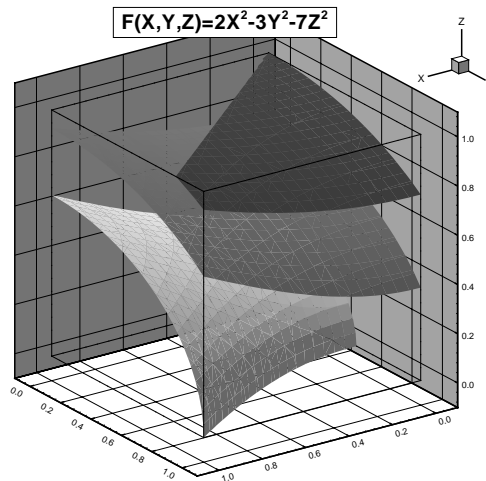

Figure 21-15. Iso-surface plot of an analytic function.
Using Tecplot's data manipulation tools, you can create iso-surface plots of 3-D volume analytic functions such as $F(x,y,z)=2x^2-3y^2-7z^2$. An iso-surface plot of this function in the range $x=0$ to $x=1$, $y=0$ to $y=1$, and $z=0$ to $z=1$ is shown in Figure 21-15.
3. Enter the dimensions of I, J, and K. These will be, respectively, the number of points plotted in the X-, Y-, and Z-directions. Figure 21-15 was plotted using a dimension of 20 for each index.